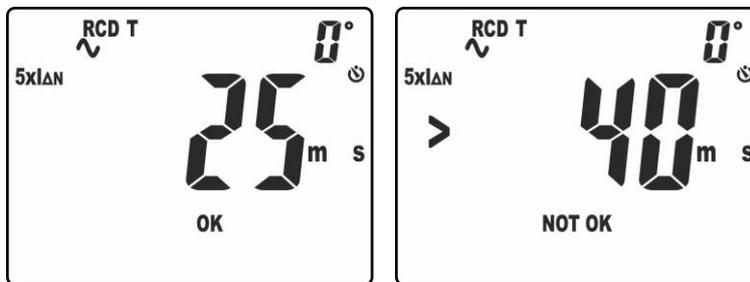

Fig. 36: Tripping time in manual mode at $5xI_{\Delta n}$
- 10. The correct measurement result is shown on the display (see Fig. 36 – left side) with indication “OK”
- 11. The wrong measurement result (**tripping time > 40ms**) is shown on the display (see Fig. 36 – right side) with indication “NOT OK”. The buzzer gives a short continuous sound
- 10. The correct measurement result is shown on the display (see Fig. 36 – left side) with indication “OK”. Notice the presence of tripping time on the top of the display on the right side.
- 11. The wrong measurement result is shown on the display (see Fig. 36 – left side) with indication “NOT OK” (**tripping current > 33mA**). The buzzer gives a short continuous sound